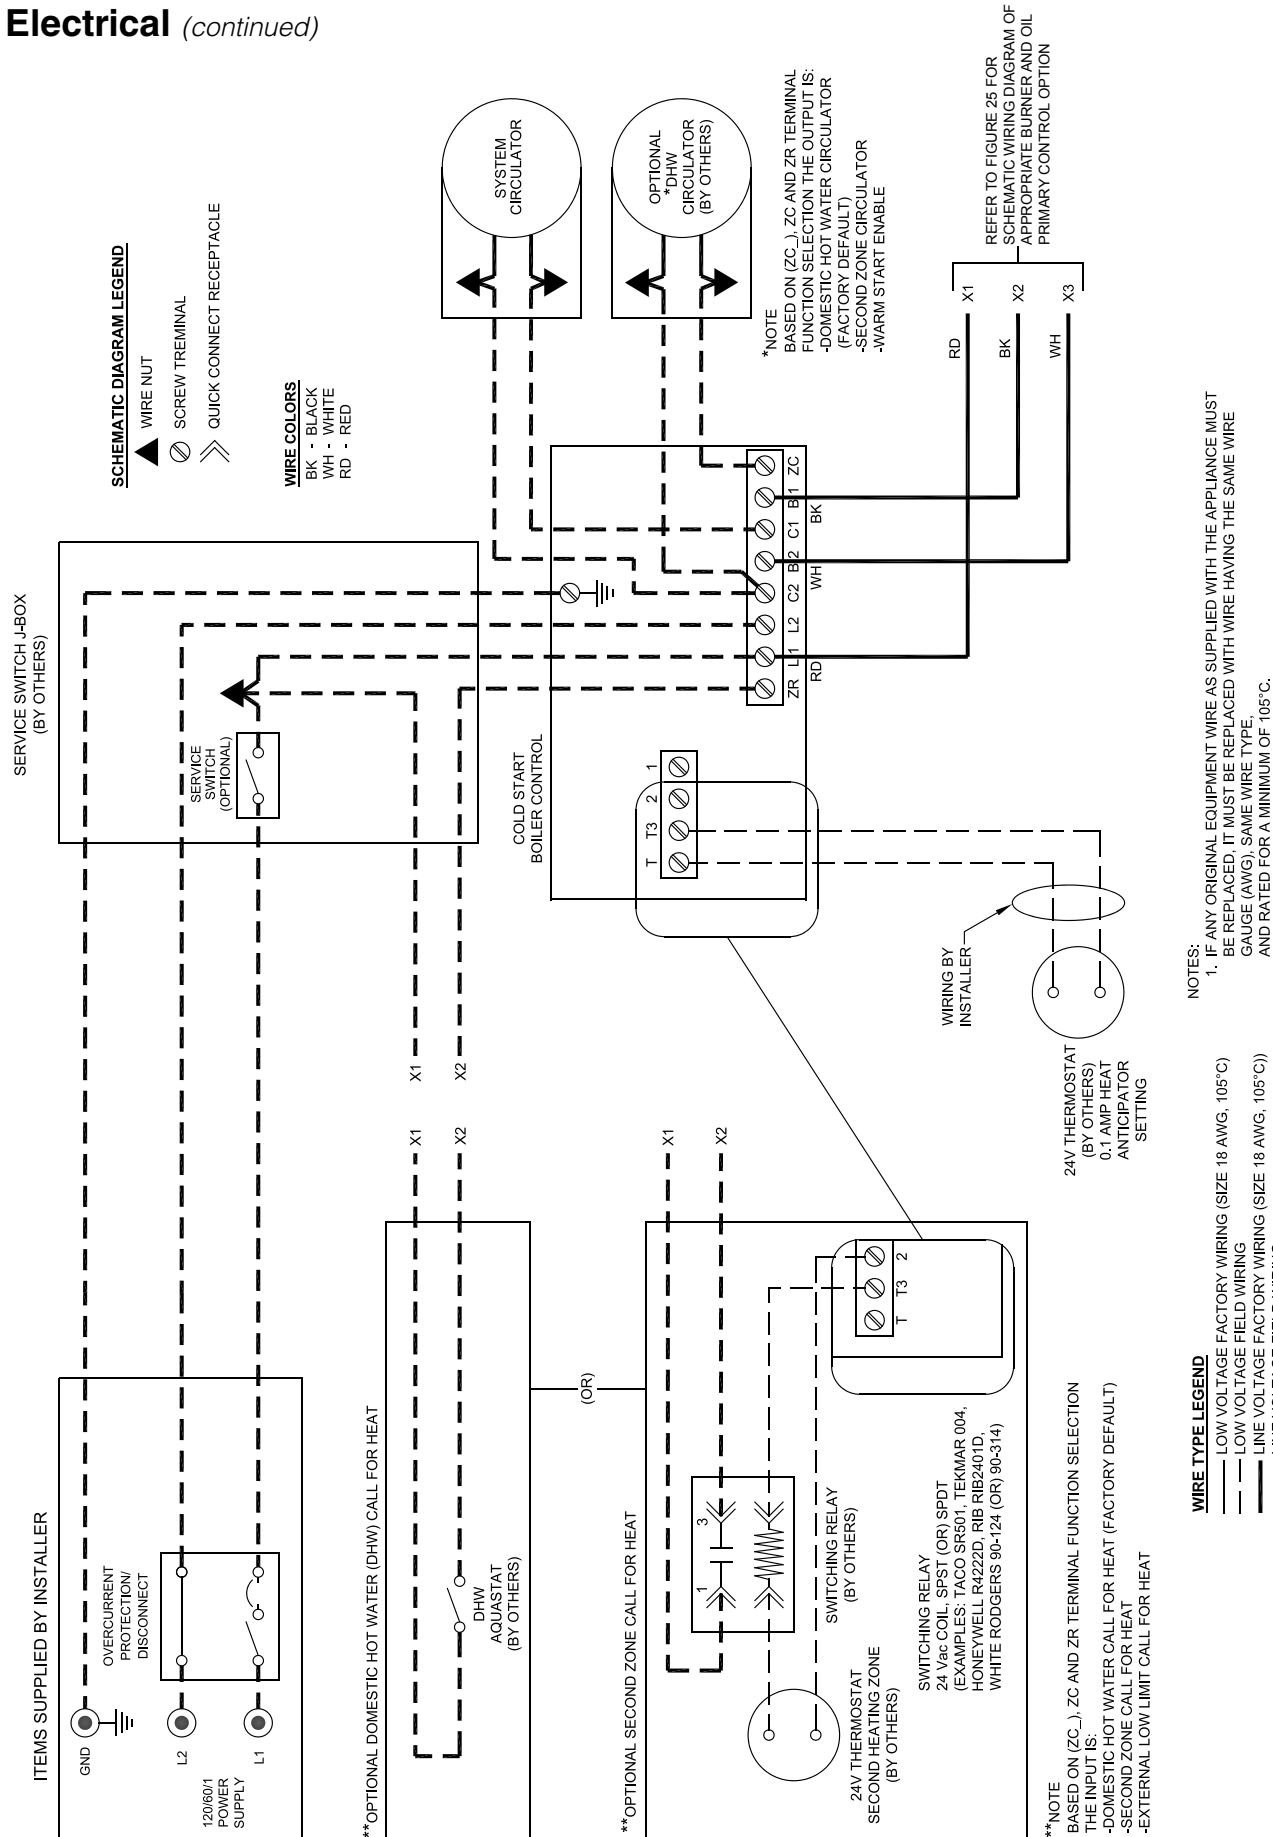

Figure 21: Schematic Wiring Diagram, without Tankless Heater, Cold Start Control (All Burners)
5. Use armored cable (BX) over all exposed line voltage wiring.
7. Wiring should conform to Figures 21 through 25.
Heat Anticipator in Thermostat should be set to match the requirements of the control to which it is connected. See Figures 21 through 25 for desired system and heat anticipator setting. If system tends to overheat above the thermostat's temperature setting, reduce heat anticipator setting by .1 or .2 amps. If system tends to short cycle without reaching desired room temperature, increase heat anticipator setting by .1 or .2 amps.
NOTE: APPLY THIS BURNER SCHEMATIC TO APPROPRIATE STEAM OR WATER BOILER CONTROL SCHEMATIC, REFER TO FIGURES 21 THRU 24
NOTE: APPLY THIS BURNER SCHEMATIC TO APPROPRIATE STEAM OR WATER BOILER CONTROL SCHEMATIC, REFER TO FIGURES 21, 22 AND 24